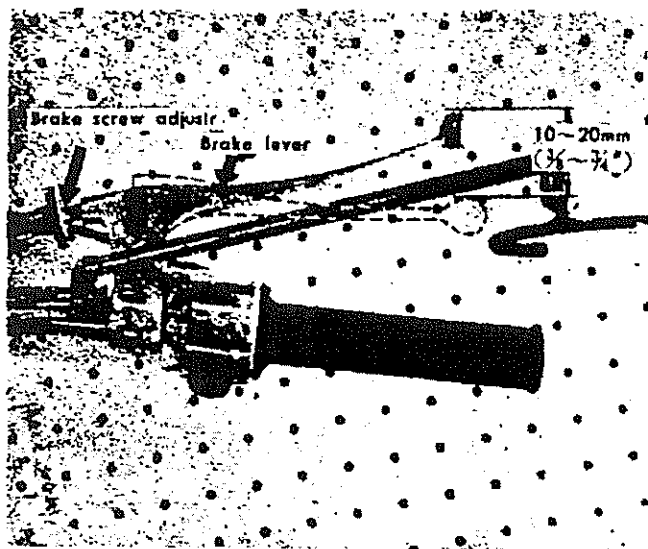

Fig. 17
1. Front brake cable hand lever should be so adjusted to allow a play of 10-20 mm. ($3/8''$ - $3/4''$) before the brake acts. (Fig. 17).
2. a) The play in the brake lever may be adjusted while running with the screw adjuster on the lever, (Fig. 17) or